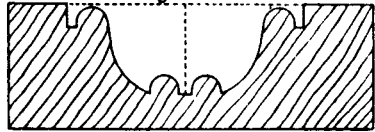

Fig. 79
*Fig. 79* is made with a Grecian Ogee from both edges of the work, the cutter being worked to its full depth.